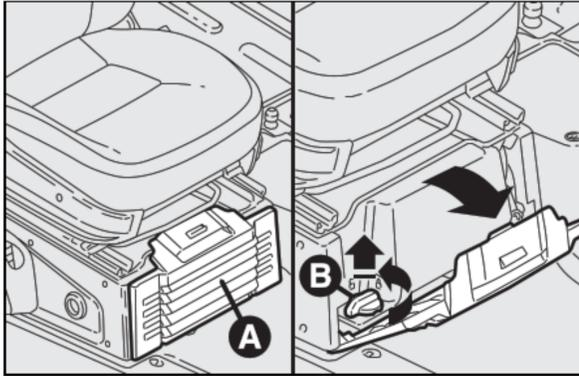
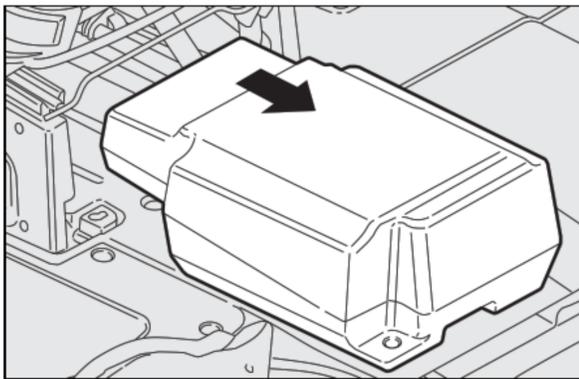

fig. 46
fig. 47
- Open lid **A** and remove it as shown in **fig. 46**;
- turn the knob **B** counterclockwise and remove it **fig. 46** to extract the compartment **fig. 47**;